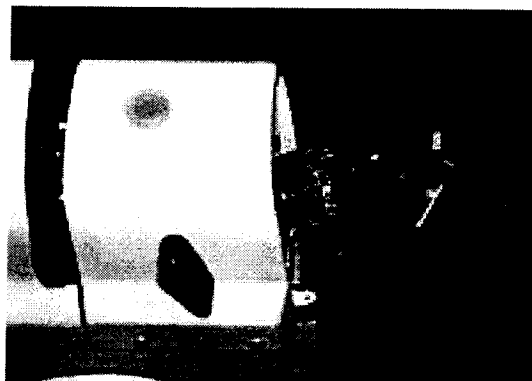

Fig.12
3. Unscrew the old lamp and replace it with a new one (100V/120V/220V/230Vac, 15W : E-17). (Fig.12)
When measuring a contact lens, the instrument may be easily readjusted to the vertical position after loosening the locking lever (Fig. 1, No.11). The diameter of the nosepiece is 7mm. Or the contact lens holder (Fig.12) will be supplied as an optional accessory.